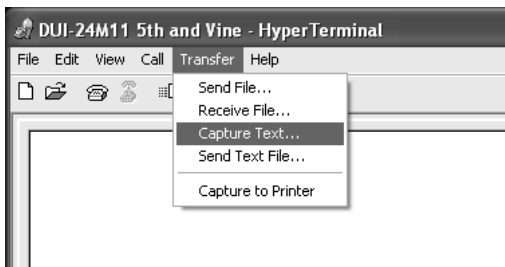

FIGURE 19
- f. The **'BBS (ADI-24M11 5th & Vine in this case) Properties'** window appears. Click on the **Settings** tab. Fill in the fields as shown in Figure 19. Click the **ASCII Setup** button.
1. From the **Terminal Interface** window click **'Transfer'** menu then click **'Capture Text'**. See Figure 19 below.